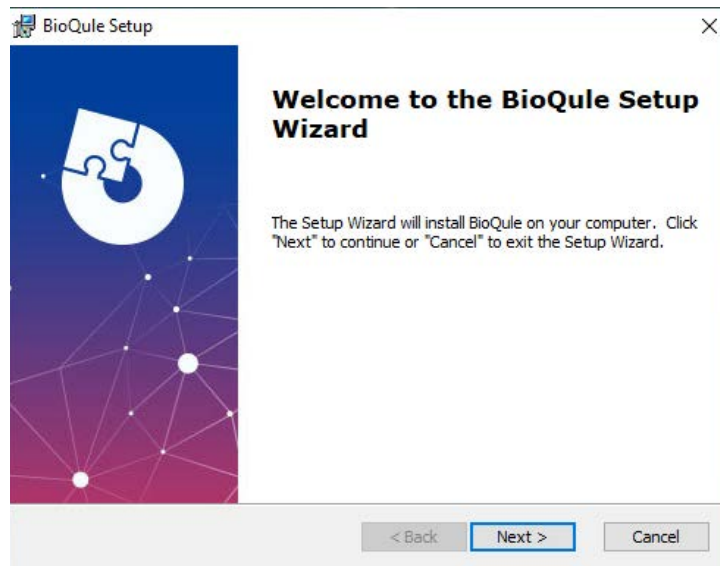

Figure 7. BioQule Setup Wizard
- 4 Double-click the **BioQule.msi** file. The BioQule Setup Wizard opens as shown in Figure 7 on page 25.